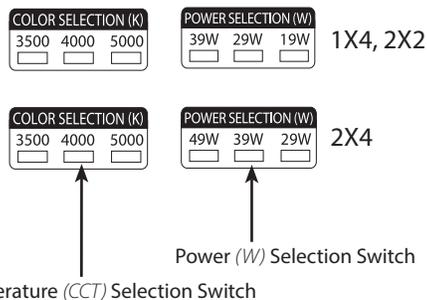

Fig. 5
2. Select a **Color Temperature (CCT)** and/or **Power (W)** by sliding the respective switch to the desired setting (Fig 5).